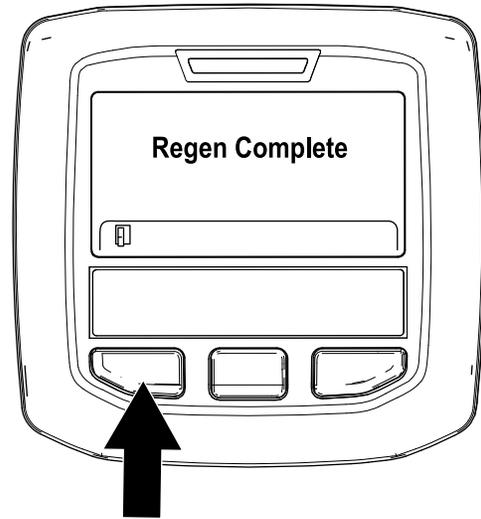

Figure 52
- The parked regeneration is complete when the “Regen Complete” message displays in the InfoCenter. Press the left button to exit to the home screen (Figure 52).